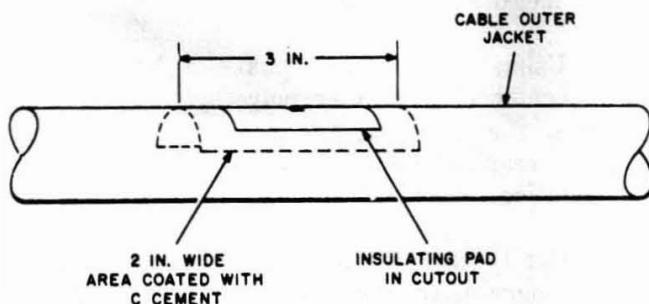

Fig. 14—Cutout With Pad in Place
- (5) Carefully trim the pad to fit in the cutout in the outer polyethylene jacket. The pad should butt against the cut edges of the polyethylene along all four sides.
- (6) Remove the pad from the cutout. Coat the exposed inner polyethylene jacket and the cut edges of the outer polyethylene jacket with C cement and allow to dry. **Do not allow cement to get into the drilled hole.**
(7) Place the pad back in the cutout and press firmly in position. Coat the insulating pad and the area of the outer jacket around the pad with C cement and allow to dry (Fig. 14).